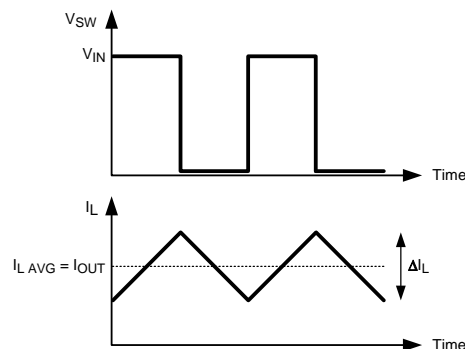

Figure 30. Switch And Inductor Current Waveforms
The inductor (L) used in the application will influence the ripple current and the efficiency of the system. The first selection criteria is to define a ripple current, ΔI_L . In a buck converter, it is typically selected to run between 20% to 30% of the maximum output current. Figure 30 shows the ripple current in a standard buck converter operating in continuous conduction mode. Larger ripple current will result in a smaller inductance value, which will lead to a lower series resistance in the inductor, and improved efficiency. However, larger ripple current will also cause the device to operate in discontinuous conduction mode at a higher average output current.